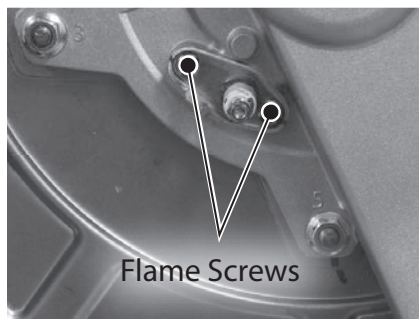

Figure 70 - Remove flame sensor screws
- 6** Use a Phillips screwdriver to remove the two (2) screws securing flame sensor to the burner assembly as shown in Figure 70. Place screws aside in a safe place for reinstallation.